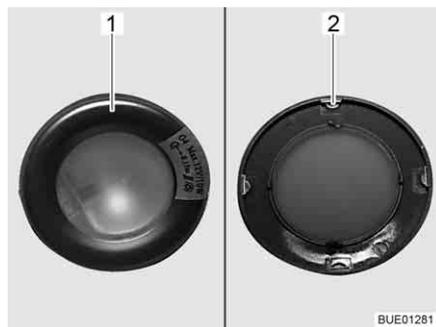

Fig. 276 Recessed halogen light
The recessed halogen light (Fig. 276) is installed flush.
- Slowly rotate surround (Fig. 276,1) until its lugs (Fig. 276,2) are located in the underlying grooves of the housing.